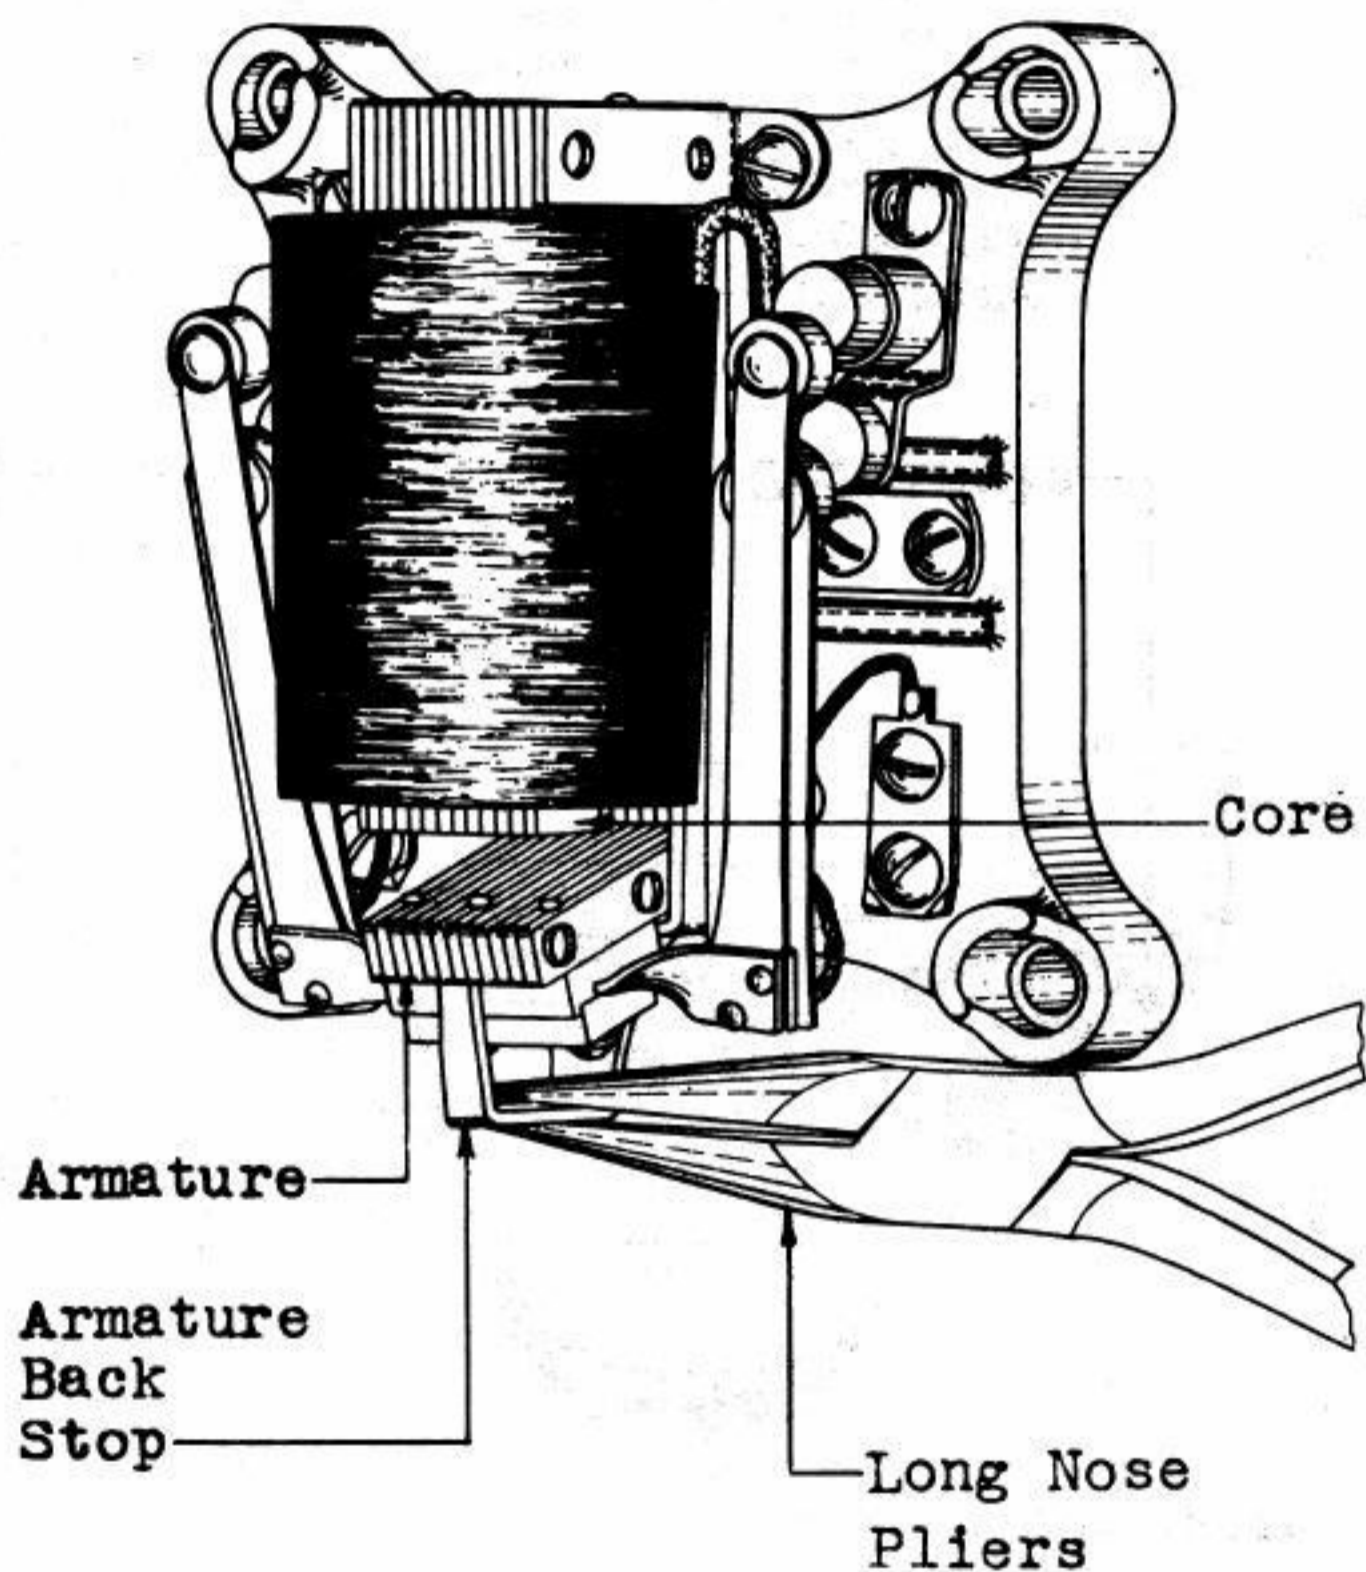

Fig. 5 - Method of Adjusting Armature Backstop, Using Long Nose Pliers
(11) Electrical Requirements. If the relay fails to meet its electrical requirements, it is probably due to the position of the armature with respect to the core, or to excessive or insufficient contact pressure. To change the position of the armature proceed as follows.
(12) On relays having the type of armature back stop shown in Fig. 5 apply the operate current and note whether or not the armature tends to move toward the core. If the armature does not move toward the core, the trouble is due to the armature air-gap being excessive. Correct this condition by adjusting the armature back stop toward the armature with the long nose pliers as shown in Fig. 5. If the relay tends to operate on a non-operate requirement, increase the air-gap by adjusting the armature back stop away from the armature with the long nose pliers as shown in Fig. 5.